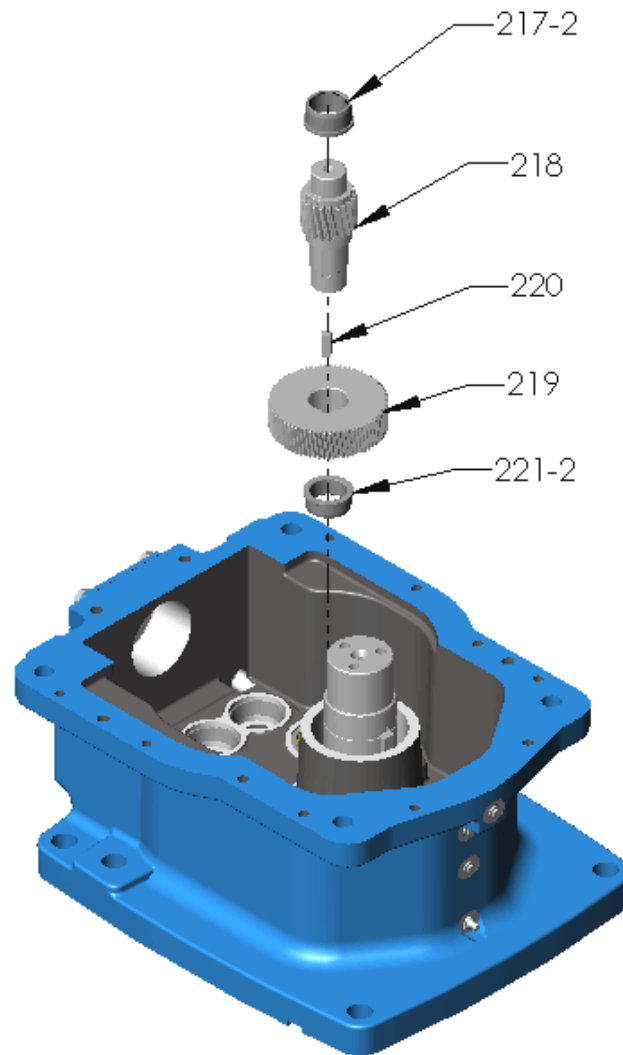

Figure 16 – 2nd Intermediate shaft
- F. 2nd intermediate shaft assembly (refer Figure 16).
- G. Install 2nd intermediate shaft [218] assembly in the bearing outer race [221-1] in the case bottom (refer Figure 16).